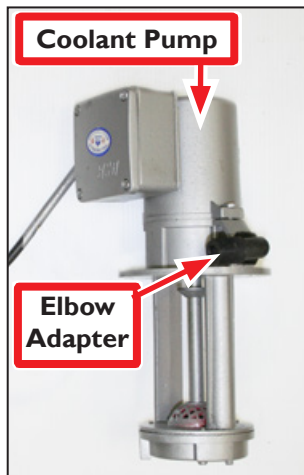
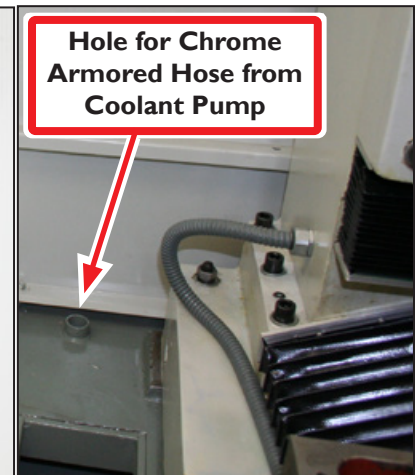

Figure 10
Figure 11
4. Insert *Chrome Armored Hose* through hole in *Stand*; connect to *Elbow Adapter* on *Coolant Pump* (see **Figure 10** and **Figure 11**).